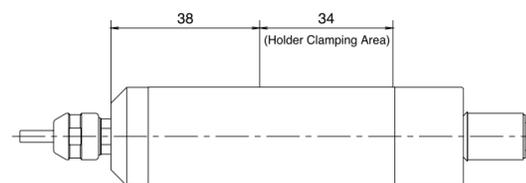

Fig.5
- When mounting the spindle avoid the area where bearings are located. If the spindle is mounted inappropriately, this will cause and damage to the spindle. (Refer to the clamping area drawing in Fig.5)